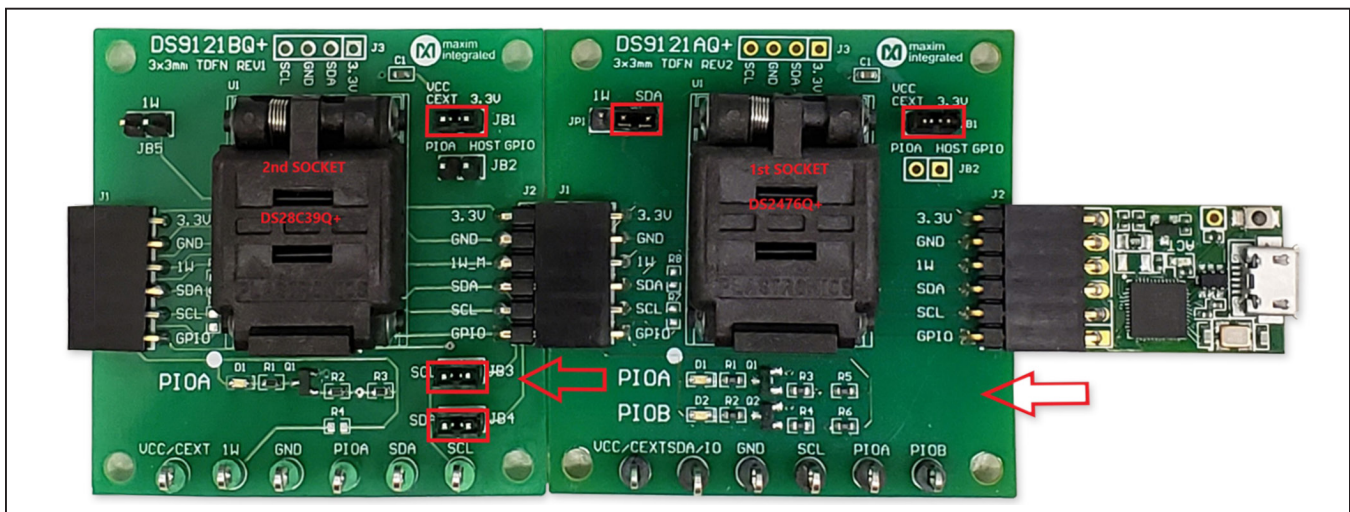

Figure 9. DS9481P-300#, DS9121AQ, and DS9121BQ
- d) Connect the DS9121AQ+ J2, 6-pin male plug, to the DS9481P-300#, 6-pin female socket, per Figure 9.
- e) Connect the DS9121AQ+ J1, 6-pin female socket, to the DS9121BQ+ J2, 6-pin male plug per Figure 9.
- f) For the DS9121AQ+ boards that contain DS2476, configure jumpers JP1 to use SDA and JB1 to use 3.3V per Figure 9.
- g) For the DS9121BQ+ board that contain DS28C39, configure jumpers JB3 to use SCL, JB4 to use SDA, and JB1 to use 3.3V per Figure 9.